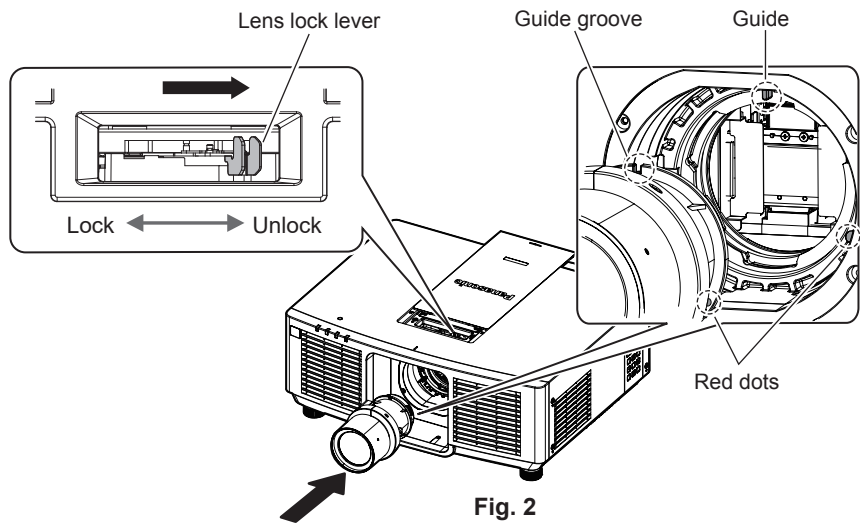
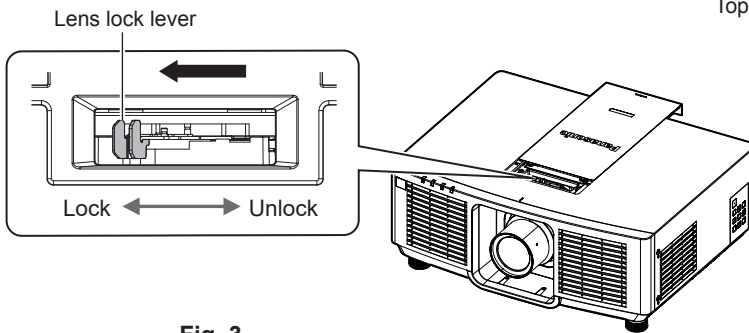

Fig. 2
Fig. 3
- 2) While holding the projection lens, pinch the lens lock lever and turn to the UNLOCK side. (Fig. 2)
- 3) Take out the projection lens straight. (Fig. 2)
- 2) **Confirm that the lens lock lever is positioned at the UNLOCK side. (Fig. 2)**
- If the lens lock lever is at the LOCK side (Fig. 3), pinch the lens lock lever and turn to the UNLOCK side. (Fig. 2)
- 3) **Align the mark (red dot) on the projection lens with the mark (red dot) on the projector, and insert the projection lens all the way in. (Fig. 2)**
- 4) **While holding the projection lens, turn the lock lever fully to the LOCK side. (Fig. 3)**